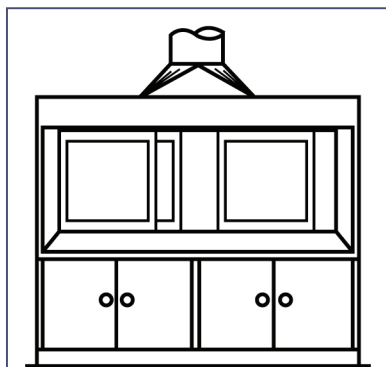

Figure 2. Horizontal sliding sash
- For hoods equipped with horizontal sashes, slide the sashes to minimize the openings, keeping a panel between you and your work. (Figure 2)*